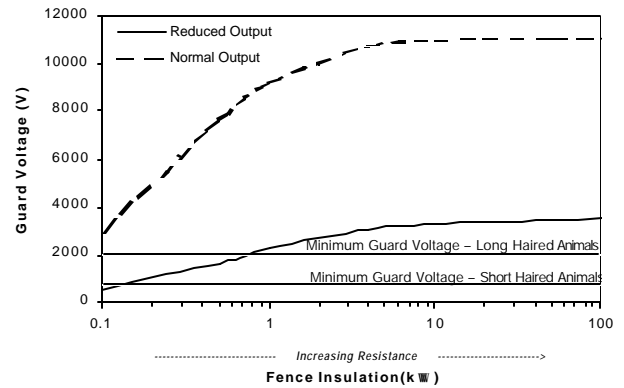

Figure 32. Guard Voltage for 3.3 mile (5.4 km) Fence.
**Shock Delivery:** Figures 32 and 33 show guard voltage outputs of the Stafix M3.2 for 3.3 and 10 mile (5.4 and 16 km) lengths of single wire fence over a range of resistances. Table 16 provides the guard voltages at the "weeded" and "clean" fence conditions. Guard voltage values for other fence conditions are given in Appendix II. The higher the guard voltage the higher the shock delivered to the animal.
As can be seen from **Figures 32 and 33**, low resistance did not appreciably affect shock delivery, since the voltage output was above 2,000 V for all fence conditions in the full power setting. The Stafix M3.2 can be expected to deliver shock over a wide range of fence conditions. The Stafix M3.2 was below the 2,000 V minimum guard voltage in the reduced power setting for some fence conditions.